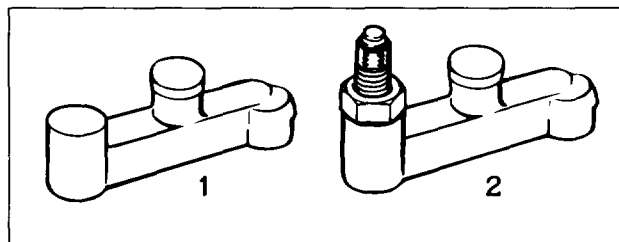

FIG. 5
Remove the Caterpillar standard exhaust valve bridge (1) (see Fig. 5).